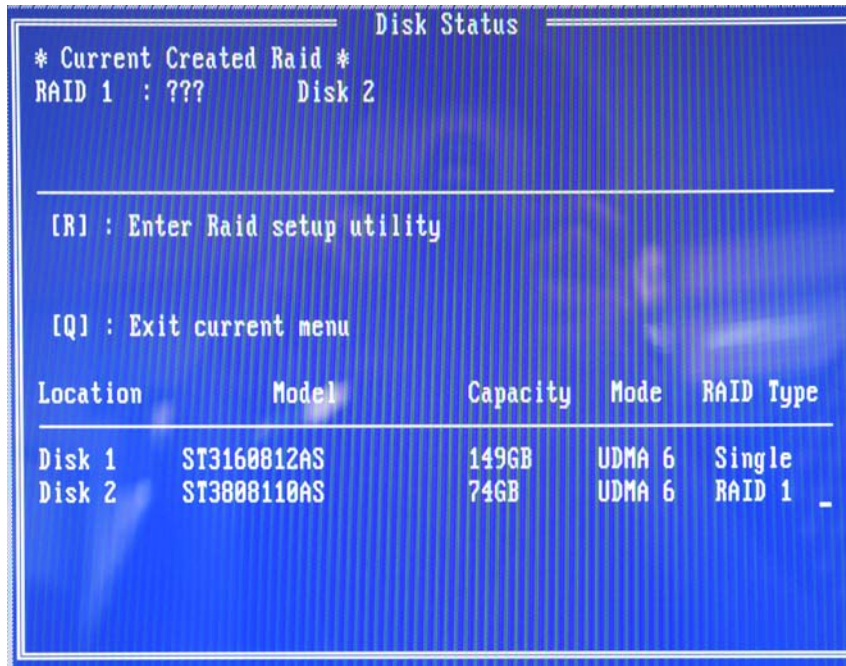

Figure E-4: BIOS RAID Utility
Step 2: You will be prompted to press <CTRL> and <S> to enter the BIOS RAID Setup Utility (**Figure E-4**).